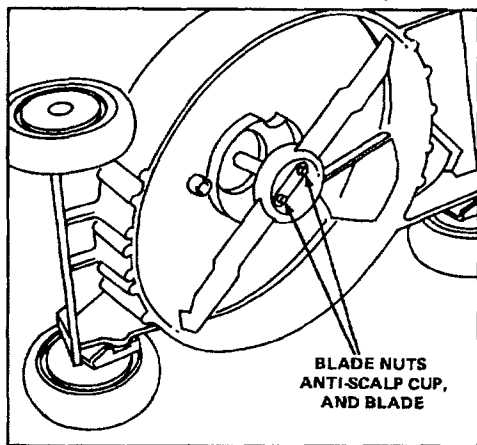

Figure 20
3. Tip mower on its right side (Fig. 20). Avoid rotating blade. Starting problems may result.
5. **REMOVING BLADE** — Grasp end of blade using a rag or thickly padded glove. Remove blade nuts, anti-scalp cup and blade (Fig. 20).